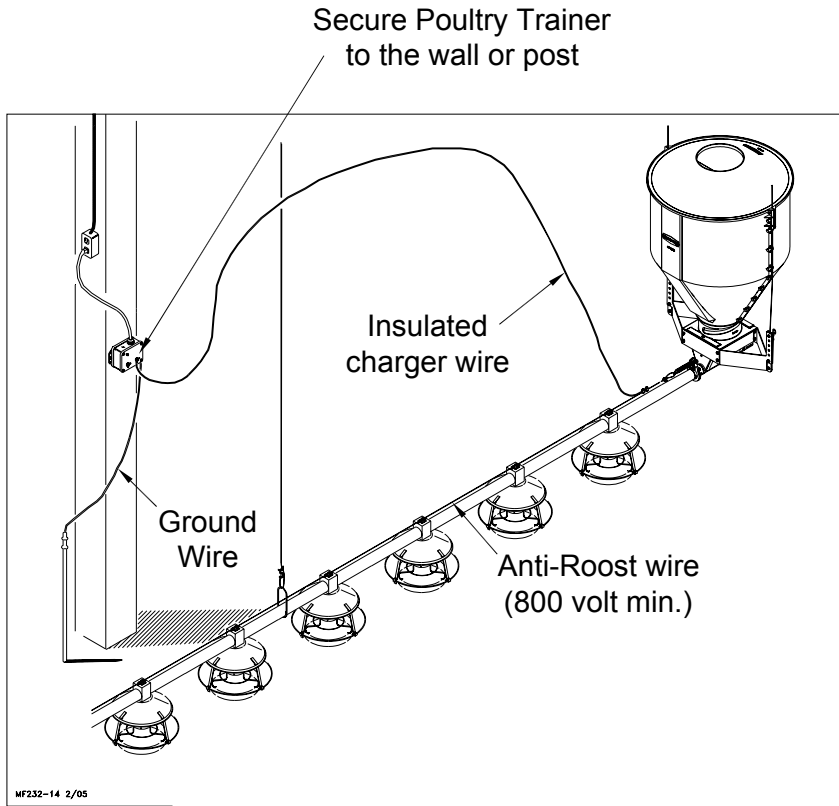
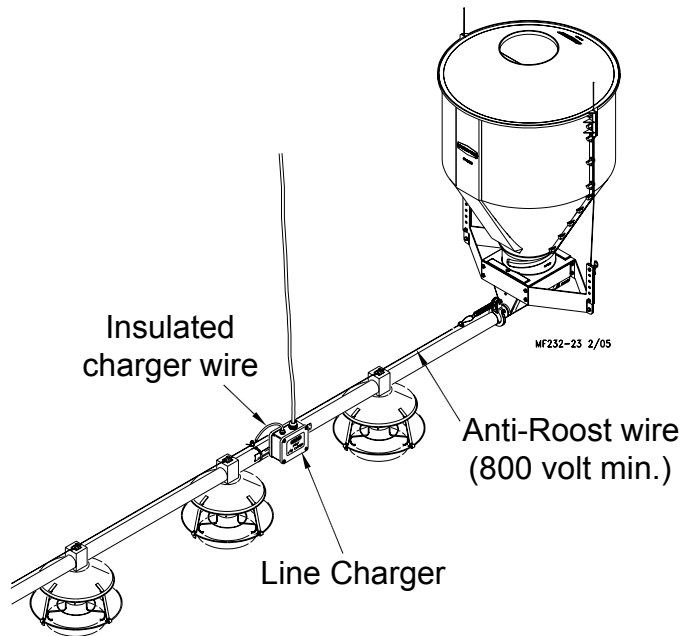

Figure 51. Poultry Trainer Installation
Figure 52. Line Charger Installation
11. Install the poultry trainer or line charger, as shown in **Figure 51** or **Figure 52**.